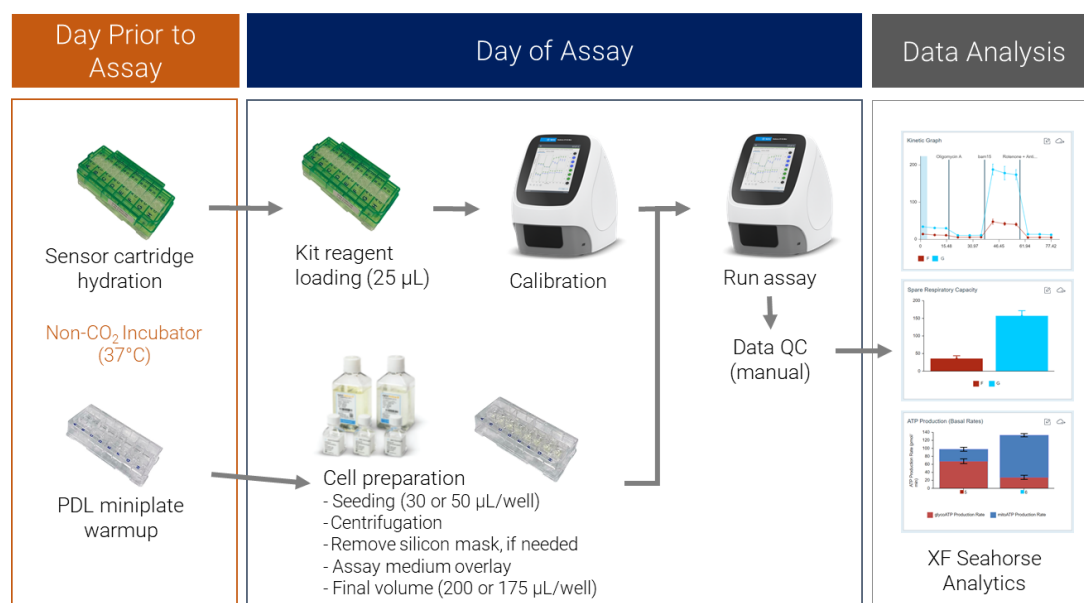

Figure 4. Agilent Seahorse XF T Cell Persistence and Fitness assay workflow with the Agilent Seahorse XF HS Mini and XFp Analyzer.
- 10 Fill the moats around the wells (both sides) with warm water or PBS, using an eight-channel pipettor set to 200  $\mu\text{L}$ , as demonstrated in **Figure 4**.